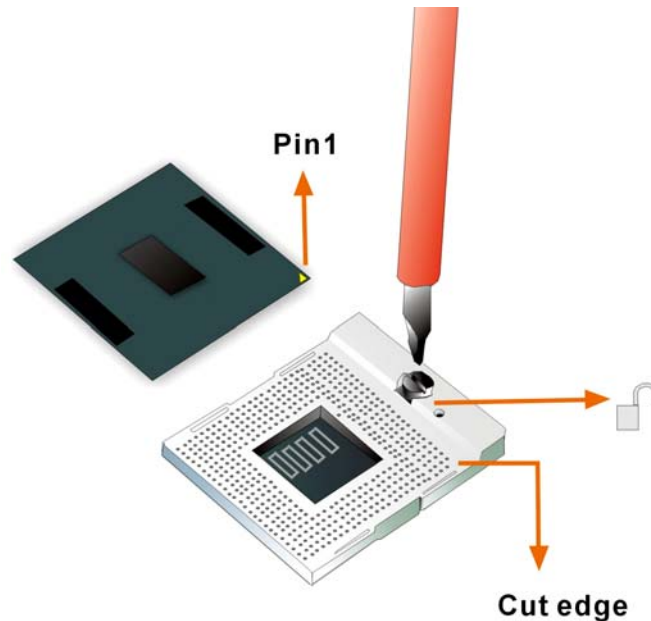

Figure 5-1: Make sure the CPU socket retention screw is unlocked
- Step 1:** **Is the CPU retention screw in an unlocked position?** When shipped, the retention screw of the CPU socket should be in the unlocked position. If it is not in the unlocked position, use a screwdriver to position it in an unlocked position. (See **Figure 5-1**)